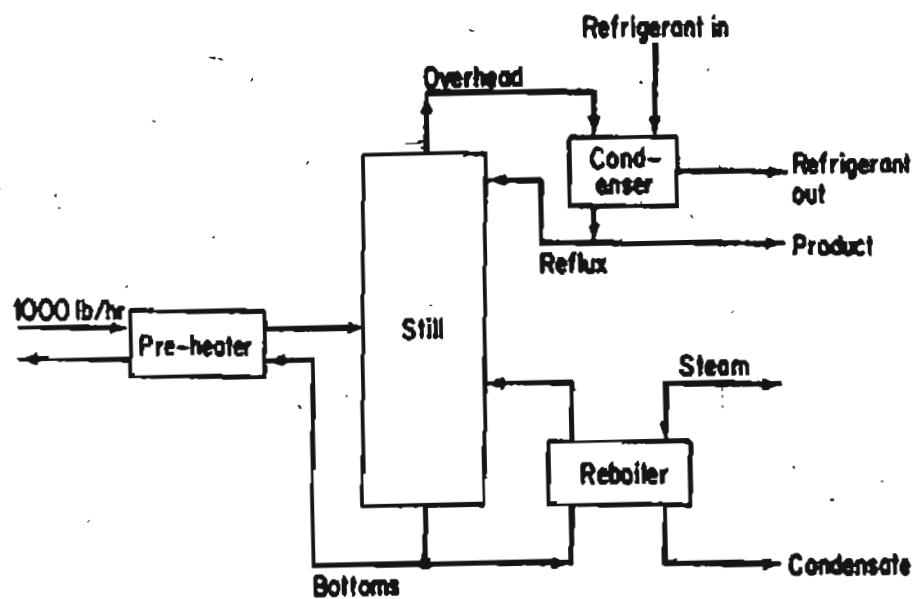

Figure P24.40
- ***24.40 A distillation process has been set up to separate an ethylene-ethane mixture as shown in Fig. P24.40. The product stream will consist of 98% ethylene and it is desired to recover 97% of the ethylene in the feed. The feed, 1000 lb per hour of 35% ethylene, enters the preheater as a subcooled liquid (temperature = -100°F, pressure = 250 psia). The feed experiences a 20°F temperature rise before it enters the still. The heat capacity of liquid ethane may be considered to be constant and equal to 0.65 Btu/(lb)(°F) and the heat capacity of ethylene may be considered to be constant and equal to 0.55 Btu/(lb)(°F). Heat capacities and saturation temperatures of mixtures